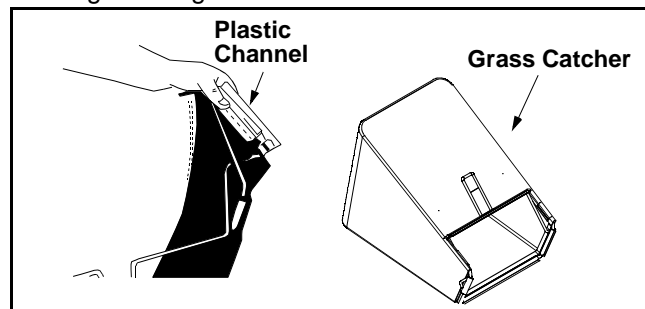

Figure 8
- All the plastic channels attach from the outside of bag. See Figure 8.